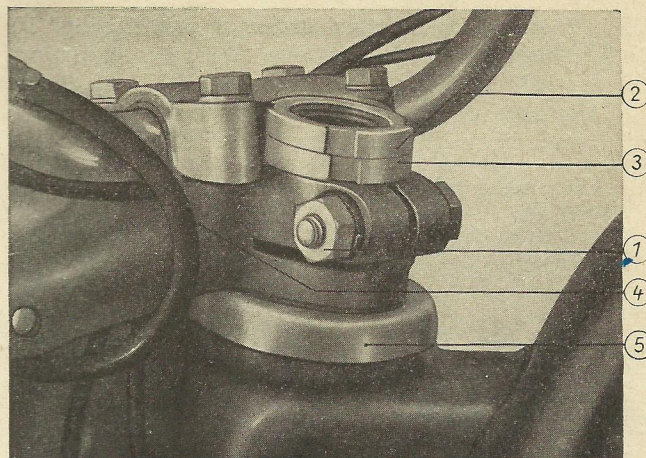
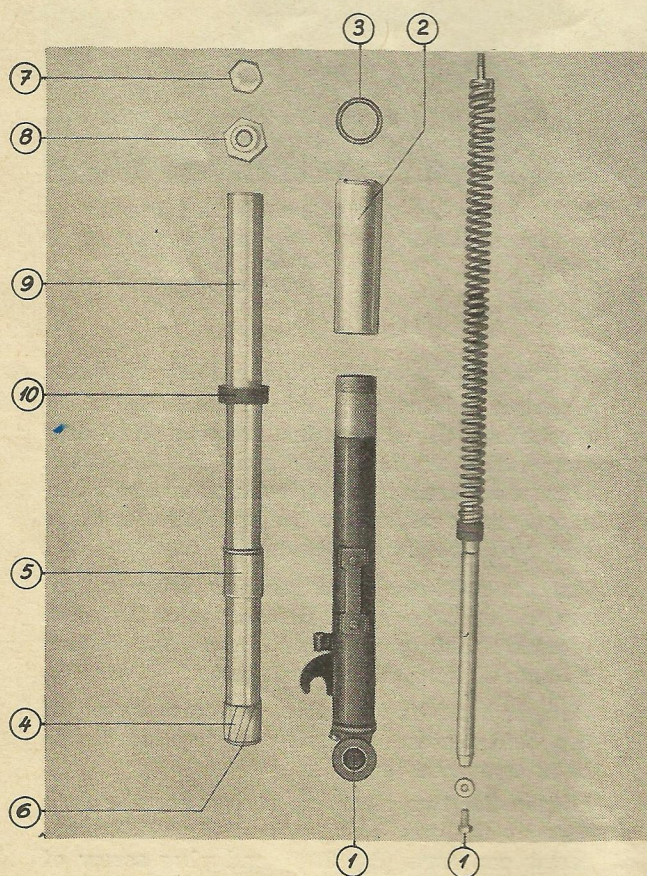

Fig. 22: Adjusting nuts of the steering bearing
Fig. 23: Telescope leg dismantled
6. Loosen the two clamping screws for the fork legs at the top bridge-piece (fig. 22/4), unscrew cap nuts (fig. 23/7) and plug screw of the top end of the fork (fig. 23/8), loosen nut of the clamp screw (fig. 22/1) and unscrew check nut (fig. 22/2) and adjusting nut (fig. 22/3) (by using spec. tool 250.7012). Lift off top bridge-piece (fig. 22/4), using a rubber mallet. (The dust cap, fig. 22/5, is pressed into the bridge-piece together with the bearing cone, so that these two parts are
Assembly in reversed order of dismantling. To tighten the lock nut (fig. 22/2) the adjusting nut (fig. 22/3) must be held by tool No. 250.7030. Connecting the five cables forming the cable assembly of the headlamp: see wiring diagram.
1. After removal of the knock-out axle the screw situated inside the eye at the end of the fork (fig. 23/1) has to be loosened and tapped into the fork (place vessel underneath to catch oil flowing out). Then the screw is unscrewed completely.
2. Now pull down sliding tube until union (fig. 23/2) becomes accessible. This union is unscrewed (use special tool No. 250.7021). Pull off sliding tube downwards. A ring seal (fig. 23/3) is situated inside the union (fig. 23/2). If any oil issues from the fork, this seal ring must be exchanged for a new one.
3. Check the bronze bushings (fig. 23/4 and 23/5) and renew them if they show a radial play of about 0,0394 in. (1 mm). These parts are dismantled after the plug for the bottom end of the fork (fig. 23/6) has been unscrewed.
4. Unscrew both nuts at the top end (fig. 23/7 and 23/8). Pull out the pressure spring together with its supporting tube, loosen the clamp screws of the fork tubes at the top and bottom bridge-pieces and finally pull out the legs (fig. 23/9) in a downward direction. Headlamp bracket and exterior tube can now be detached.
Reassembling is done in reversed order of dismantling. Insert leg tubes in such a way that the top oil holes in both of them face forward. When reassembling, slip rubber buffer ring (fig. 23/10) on leg tube before fitting the bronze bushings.